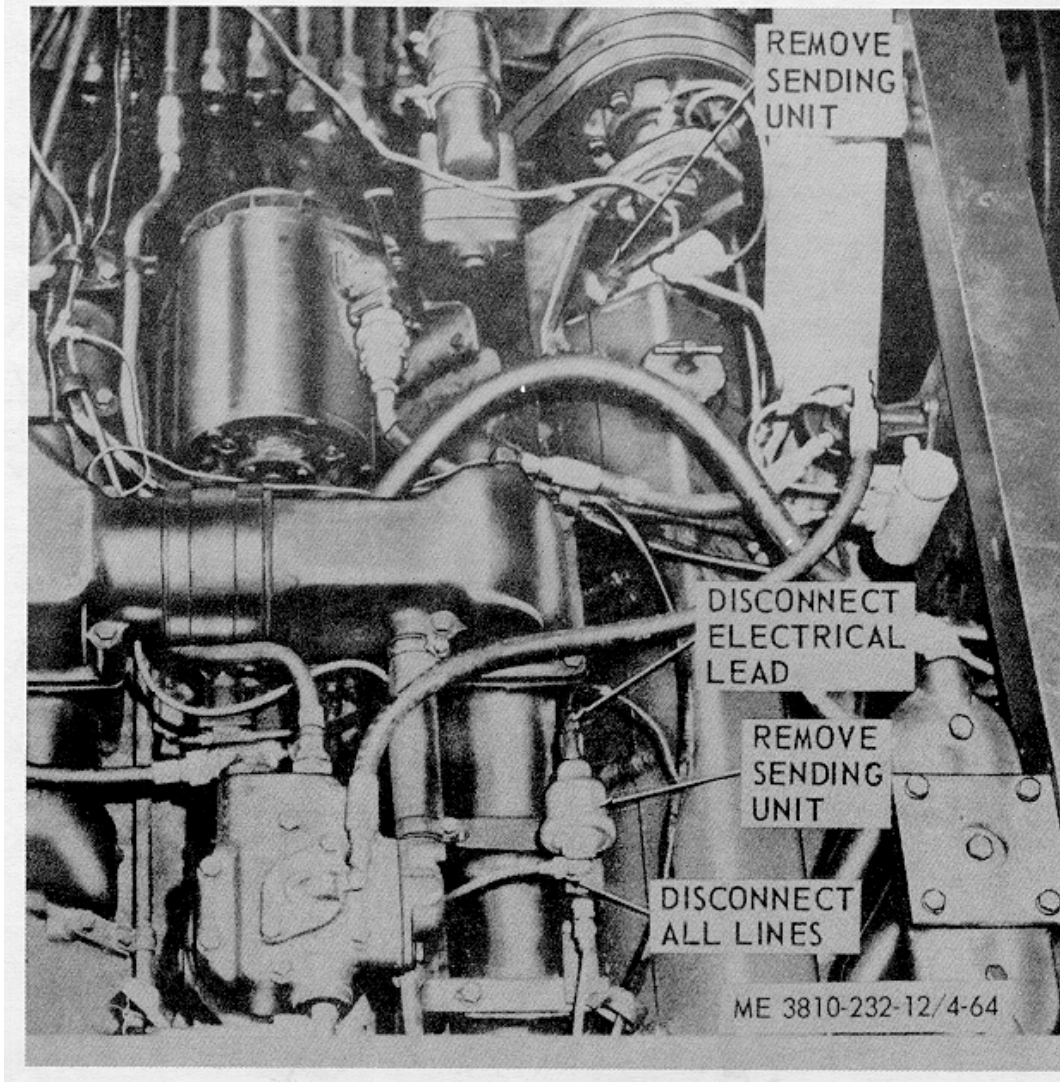

Figure 4-64. Carrier engine temperature thermostat and warning lights sending units, removal and installation.
a. Removal. Remove temperature thermostat and warning light sending units as illustrated in figure 4-64.
- (1) Clean sending units and dry thoroughly.
- (2) Inspect for defects. Replace defective sending units.
- c.. Installation. Install temperature thermostat and warning light sending units as illustrated in figure 4-64.